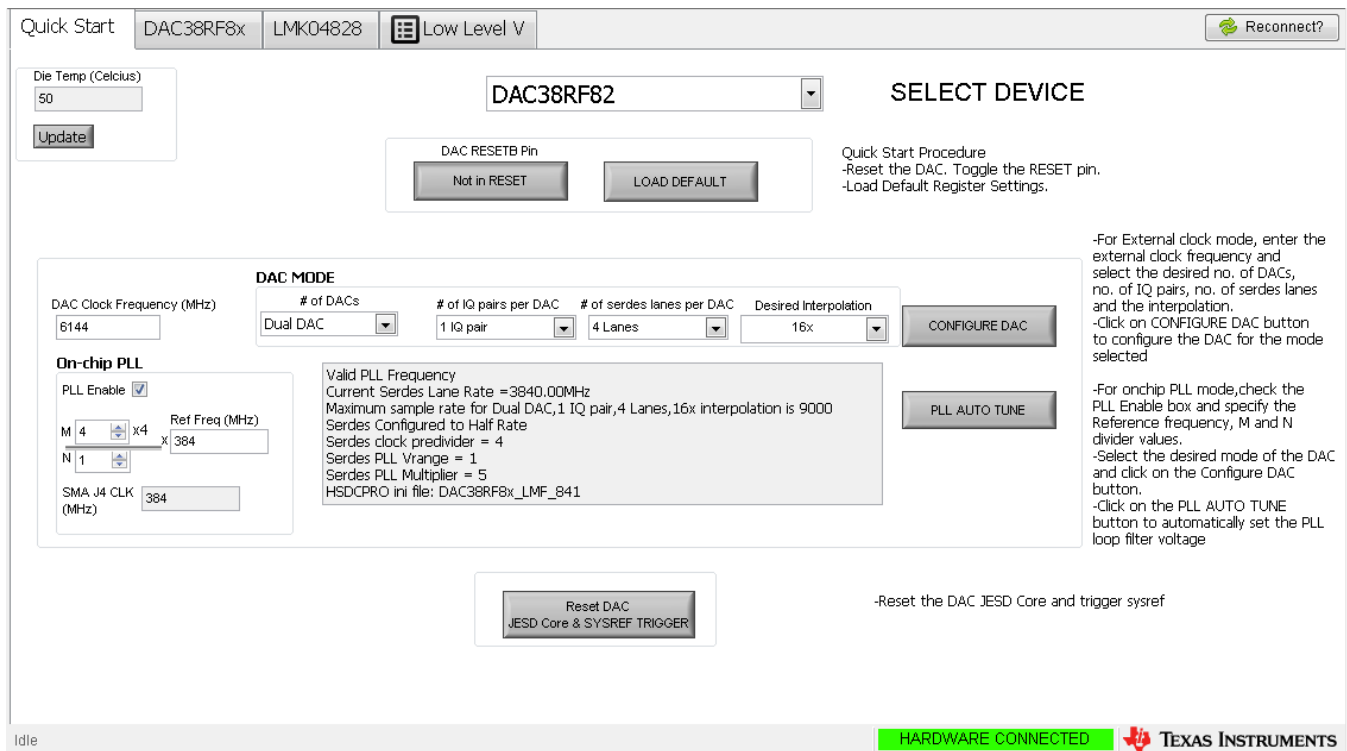

Figure 8. DAC38RF8xEVM GUI Quick Start Page Configured for On-Chip PLL Mode
1. Start the DAC38RF8xEVM GUI then navigate to the quick start page as shown in Figure 8.
lanes) and interpolation (16x), as shown in Figure 8.